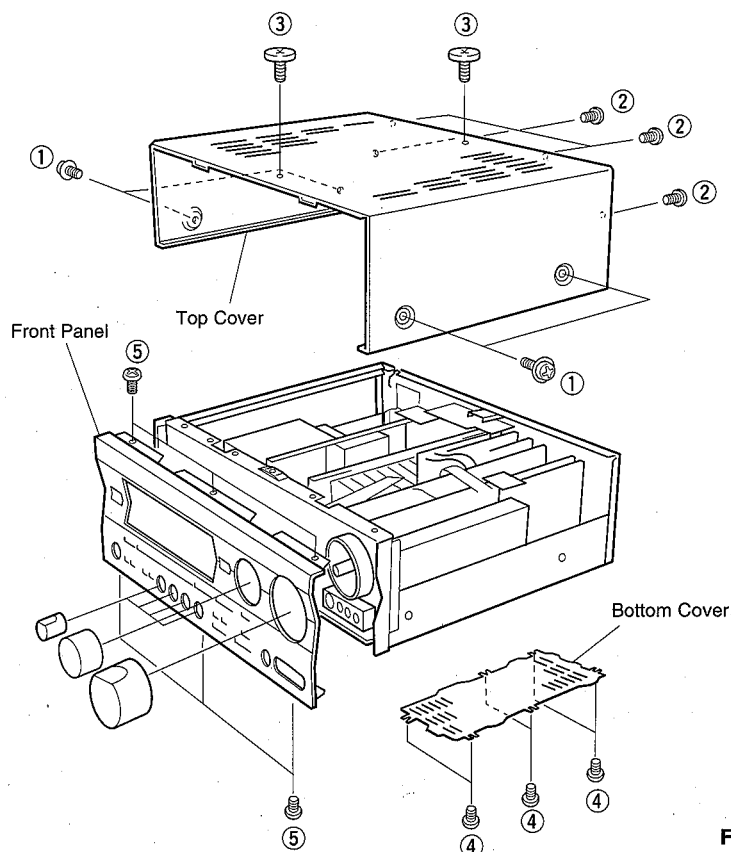

Fig. 1
- a. Remove 4 screws (①), 4 screws (②) and 2 screws (③) in Fig. 1.
- a. Remove 6 screws (④) in Fig. 1.
b. Remove 6 screws (⑤) in Fig. 1.